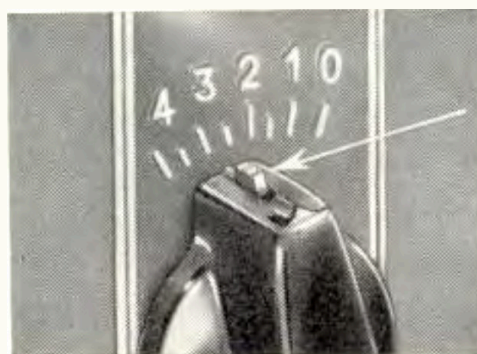

Fig. 26a.
7. While the needle is still raised, press in the stop (Fig. 26a) and turn the control to the right. The stitch width will then be automatically stopped at $\frac{3}{32}$ in. (2 mm). Then sew the second line of stitches, stopping the machine when the needle is in its left-hand position. The buttonhole, almost finished, now looks like (d).